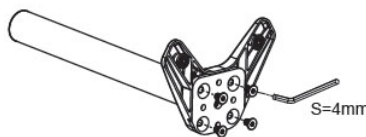
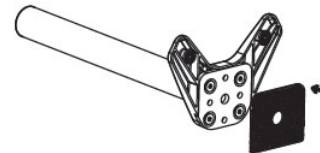

Figure 7
Figure 8
4. Attach the Grommet Plate to the aluminum base, see Figure 7, using the screws from step 3, then attach the plastic cushion, see Figure 8.